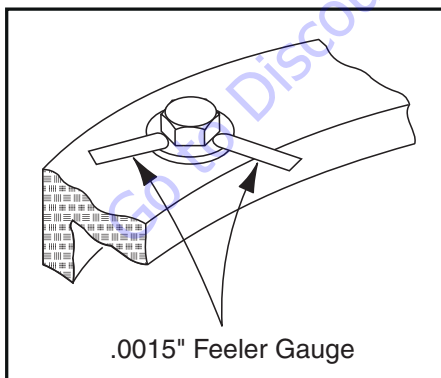

Figure 3-13. Swing Bearing Feeler Gauge Check
4. At the position indicated on Figure 3-13. Try and insert the 0.0015" feeler gauge between the bolt head and hardened washer at the arrow indicated position.